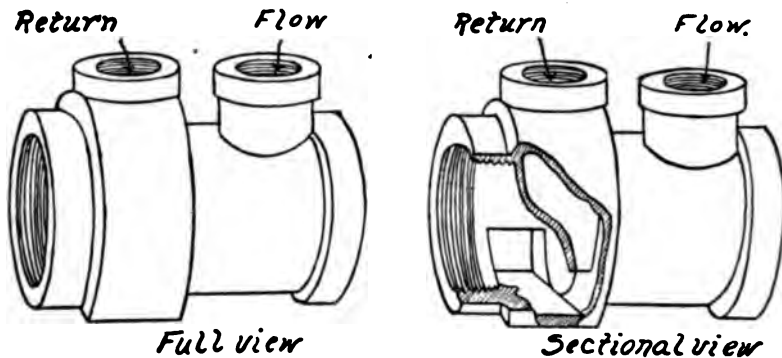

Fig. 54.—The Eureka Fitting.
A. The circuit system or as it is sometimes known, the single main system, is installed with a single main supply pipe which makes a circuit of the basement of the building in quite the same manner as the main of a single or one-pipe steam system. This main acts as both flow and return. The hottest water in a hot water main is always at the top of the main, the cooler water at the bottom, and on this fact the principle of the circulation of a circuit system is based—two bodies of water at different temperatures flowing through the same pipe. The main rises from the boiler to a point as high as desired and makes a circuit of the basement pitching downward from the boiler or up to a point which is called the high point of the main and from this high point whether it is immediately above the boiler or at some other part of the system the expansion tank is connected in order to relieve the air in the system from the high point. The radiators are connected with a flow and return branch, and risers are connected in the usual manner. Flow branches are connected from the main at the top and return branches enter the main at the bottom or at the side of the bottom. Fig. 54.